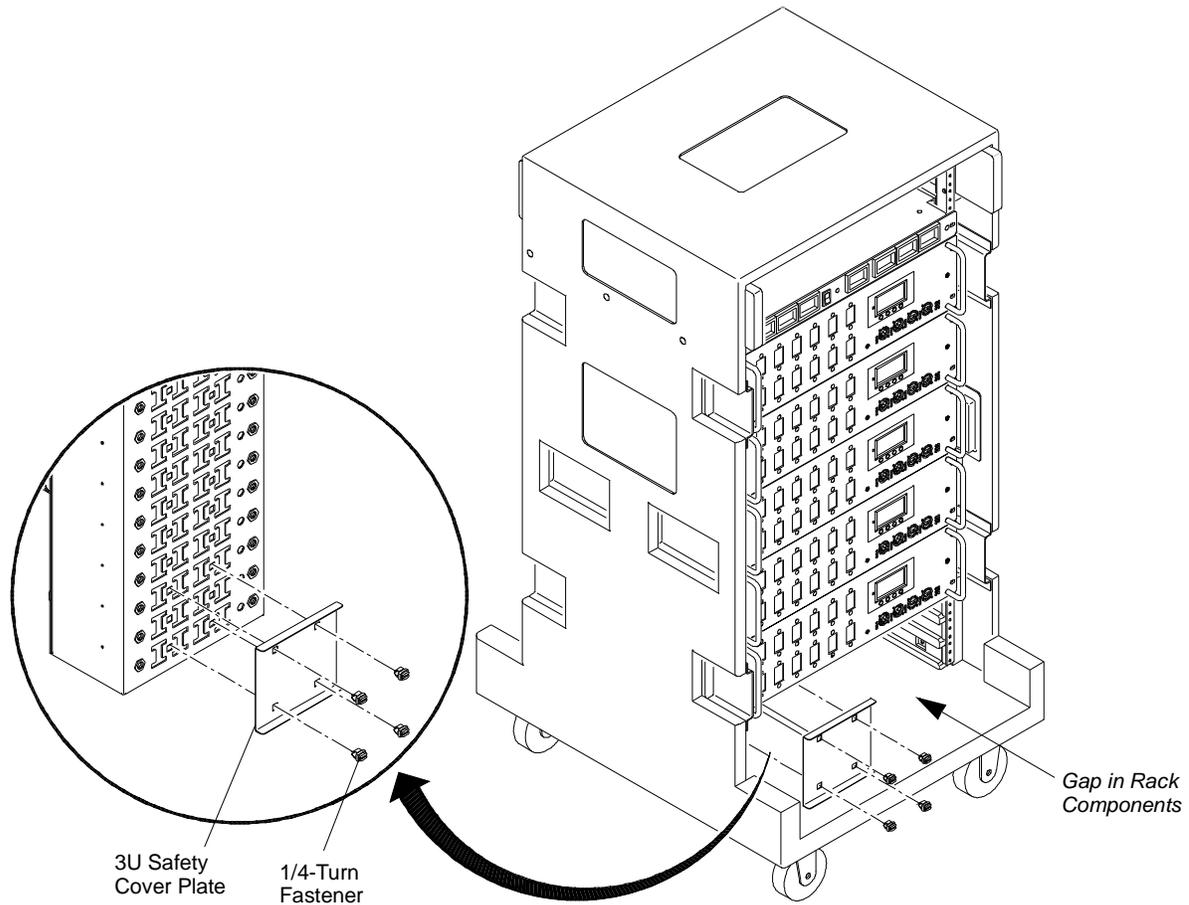
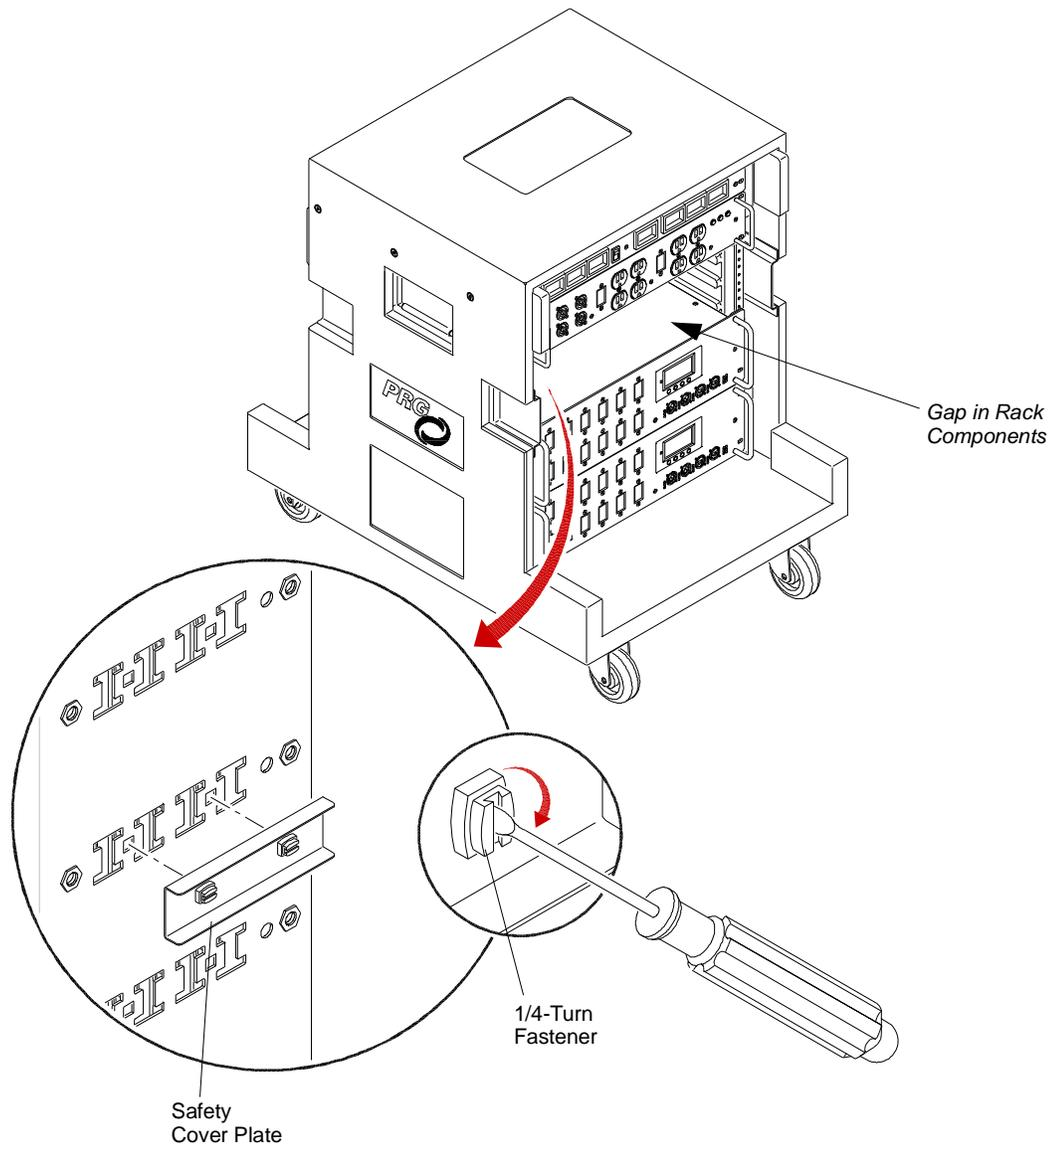

Figure 4-6: Installing a Safety Cover Plate (Full Rack)
Figure 4-7: Installing a Safety Cover Plate (Half Rack)
- Step 2. Fit 1/4-turn fasteners into cover plate, then fit ends of fasteners fit through small, square cut-outs in rack tower as shown in **Figure 4-6** (full rack) and **Figure 4-7** (half rack).